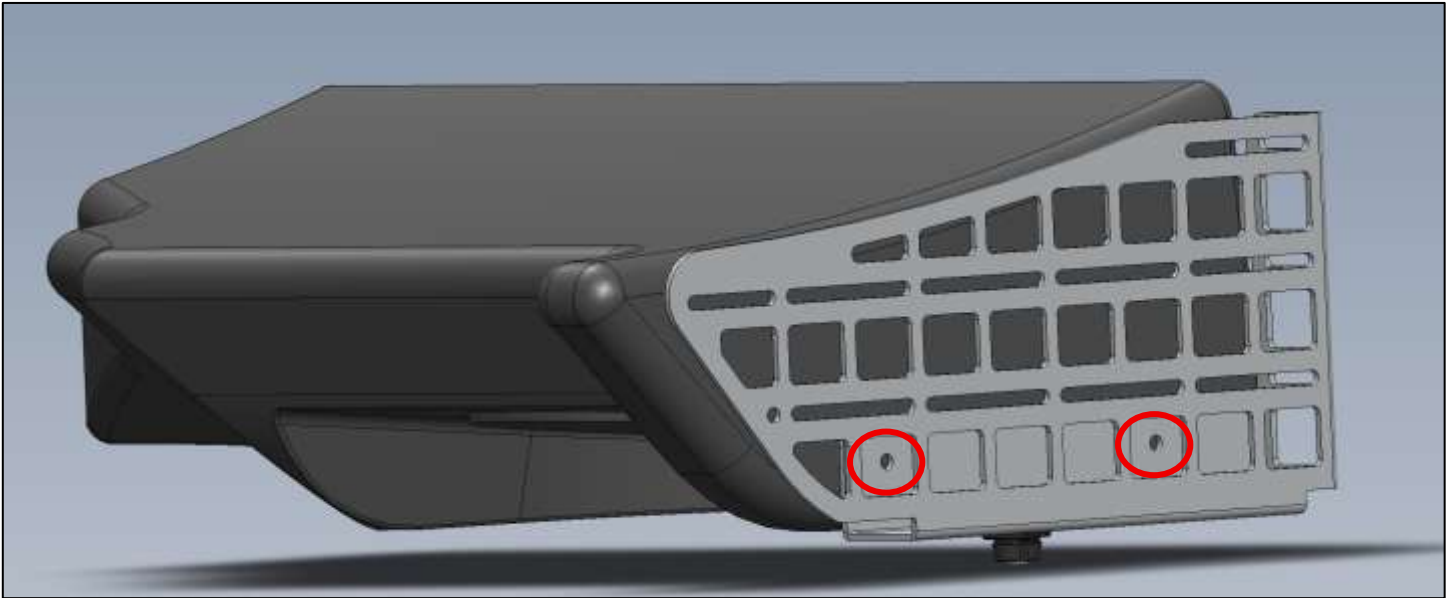

Figure 26
5. Locate the Sub Enclosure, Sub Enclosure Bracket and (2) two M6 Flanged Bolts. Attach the Bracket to the Sub Enclosure and secure with the M6 hardware. *Figure 26.*